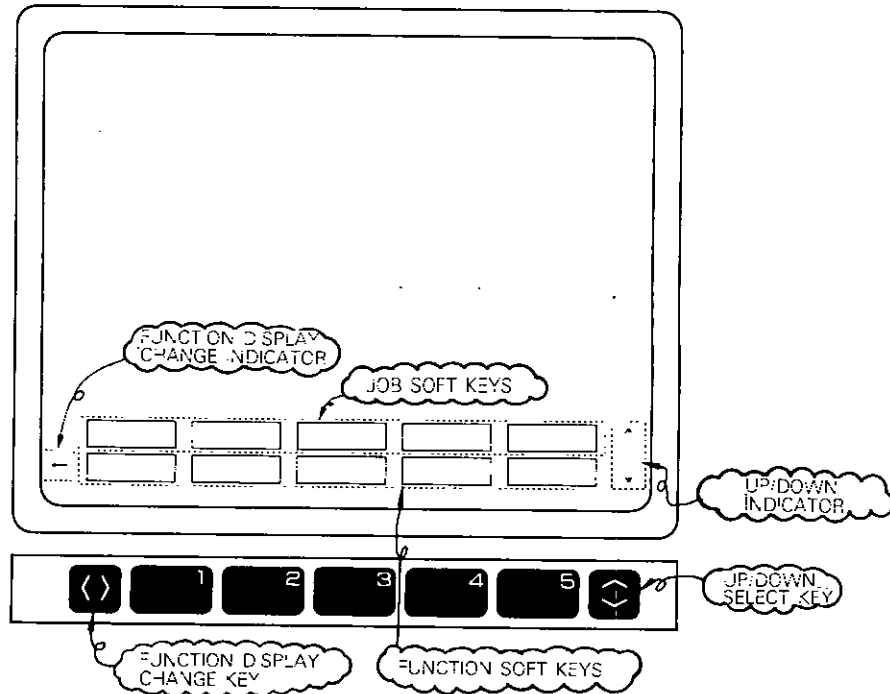

Fig. 3.3.4 Soft Keys
There are two lines of soft keys, as shown in Fig. 3.3.4.
**NOTE** If six or more functions are available, the function display change indicator is displayed as shown in Fig. 3.3.4.